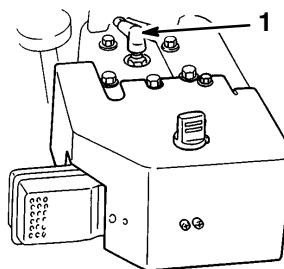

Figure 29
2. Pull the wire off of the spark plug (Fig. 29) and remove the plug from the cylinder head.
6. Push the wire onto the spark plug (Fig. 29).